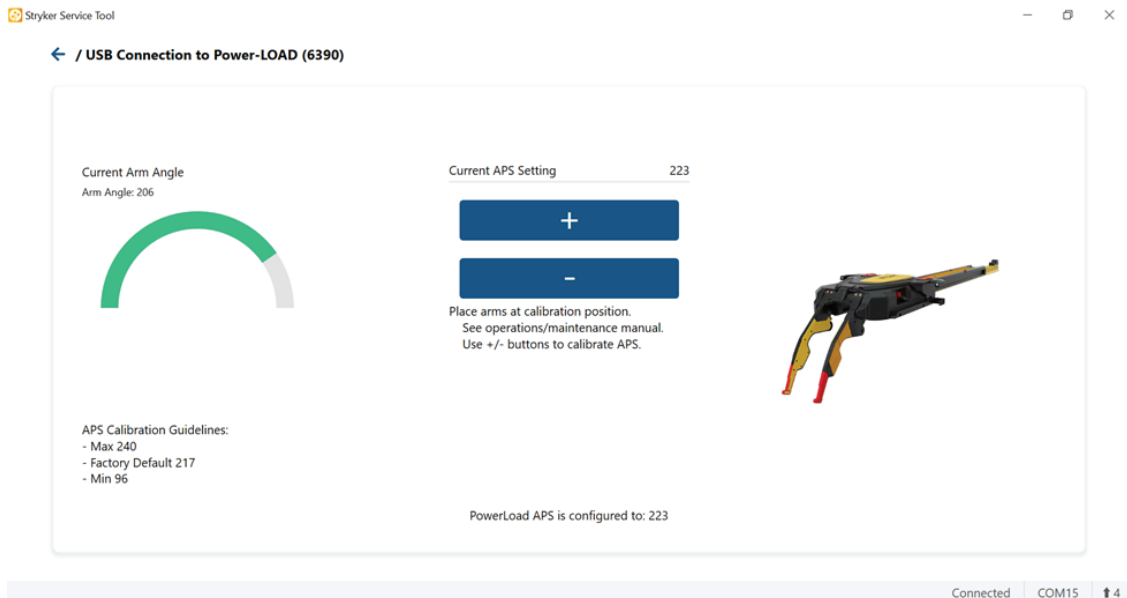

Figure 5 – USB Connection to Power-LOAD (6390)
10. Click **Connect via USB** and then click **Configure APS** (Figure 5).